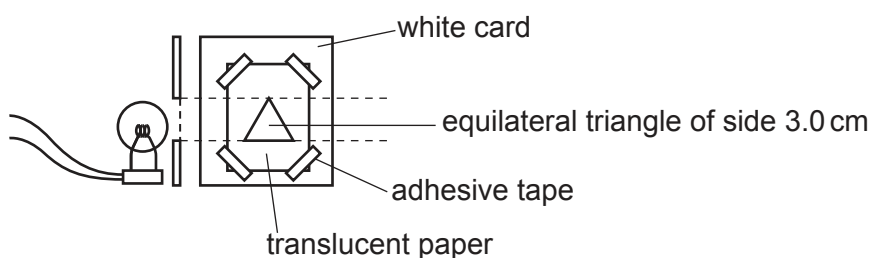

Fig. 3.1
- 1 The object is made by cutting a hole in the shape of an equilateral triangle of side 3.0 cm in the card (see Fig. 3.1). The triangular hole must be covered with translucent paper (e.g., tracing paper). The illumination can be provided by a low voltage lamp, approximately 24 W with a suitable power supply.